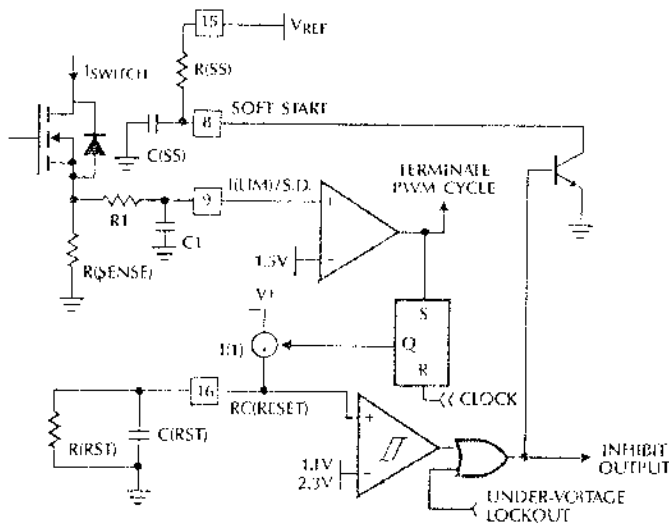

Figure 11. Over-Current, Soft Start, and Integrating Fault Detect Circuits
When the current sensed on pin 9 reaches the 1.5V limit, the PWM cycle is terminated. The flip flop (figure 11) turns on current source I(1) to charge C_{RST} and remains on until CLOCK goes high. The magnitude of current source I(1) is $.25 \times I_{SET}$ where I_{SET} is the oscillator charging current. When C_{RST} has charged to 2.3V, a soft start reset occurs. The number of times the PWM cycle is terminated due to over-current is "remembered" on C(RST). Over time, C(RST) is discharged by R(RST) providing a measure of "forgetting" when the over-current condition no longer occurs.